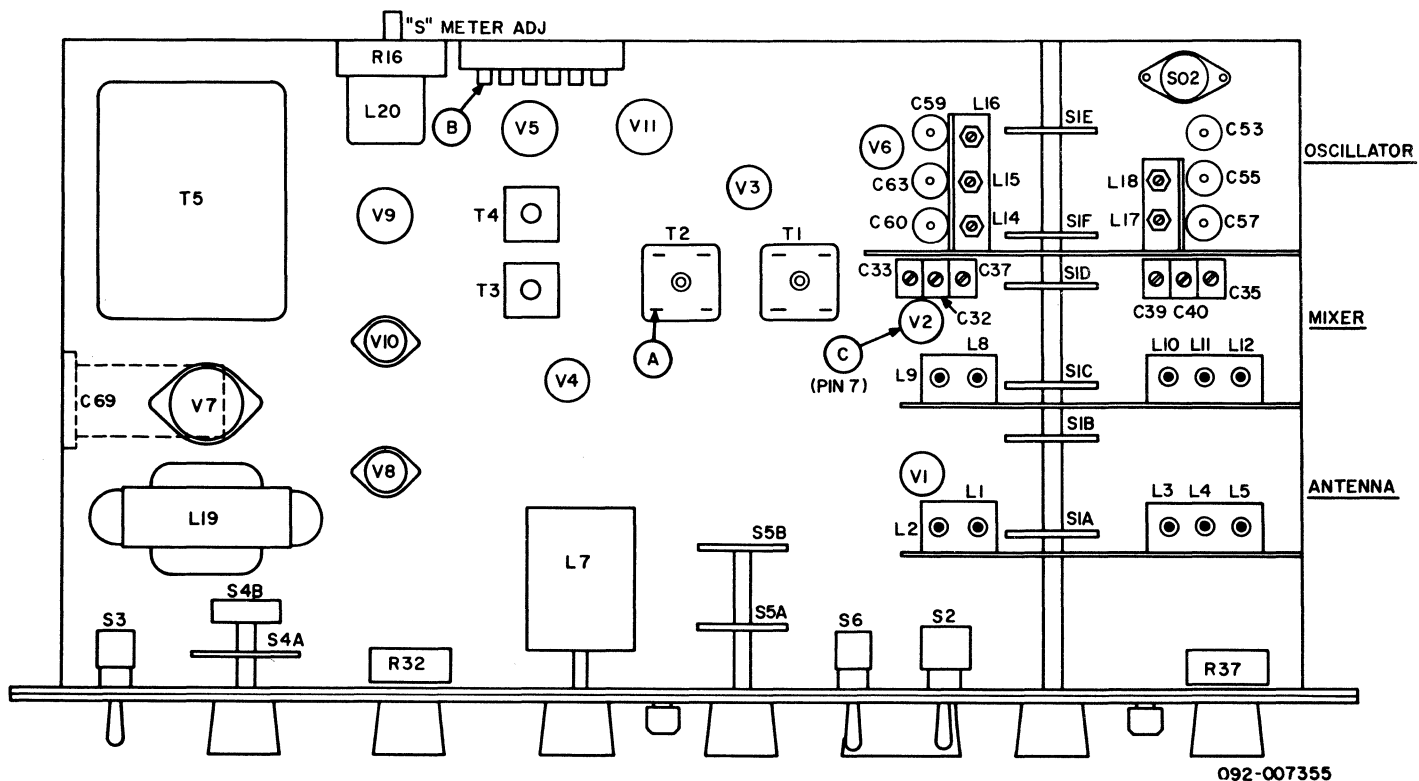

Figure 11. Bottom View Receiver Tube Locations And Alignment Points
The electrical adjustment is made by carefully turning the "S" METER ADJ control R16 on the rear of the receiver chassis (Figure 11), until the pointer is in line with the left-hand index mark. The electrical adjustment should be made with the receiver on, RF GAIN at "10" (maximum), BFO switch at "OFF", AVC switch at "ON", FUNCTION switch at "LSB" or "USB" and SELECTIVITY switch to 3 KC. The settings of the remaining controls do not affect the "S" meter reading.
5. SEE FIG. 11 FOR LOCATION OF ALL SWITCH SECTIONS.